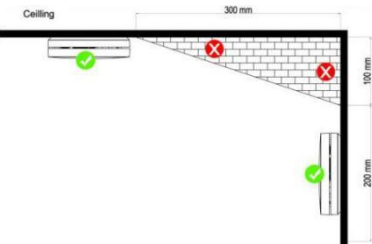

Figure 1
- 4. If the alarm can not be installed in the middle of the ceiling, install it keeping 300mm away from the corners . (see the figure1).